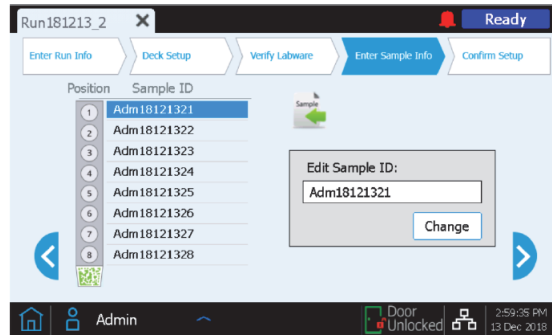

Figure 18. Edit Sample Info screen of the Magnis NGS Prep equipment; the load samples button is highlighted with a circle.
- ◇ When configuring the assay, on the *Enter Sample Info* screen, press the download samples button (highlighted with a circle in Figure 18).